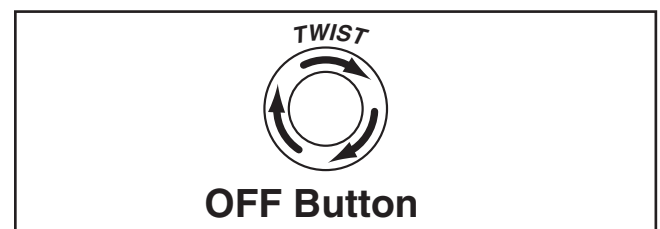

Figure 27. Resetting the stop button.
3. Push the stop button in, then twist it clockwise so it pops out. When the stop button pops out, the switch is reset and ready for operation (see **Figures 27–28**).